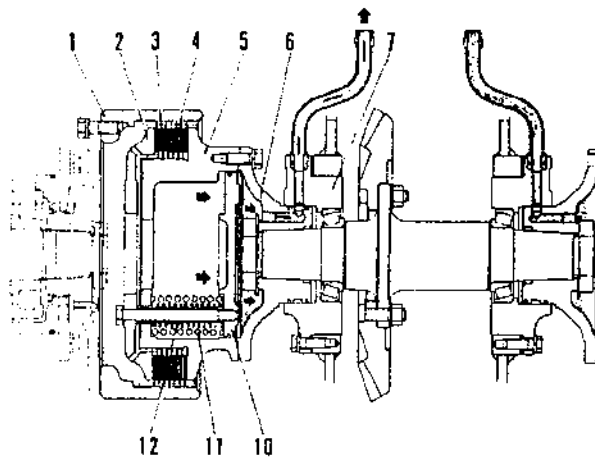

Fig. 2-28
When the oil pressure cut-off, the above parts under the force of large and small spring are forced to move in the direction as shown in the figure to make the clutch plates (4) be engaged with the friction discs and complete the power transfer (See Fig. 2-28).